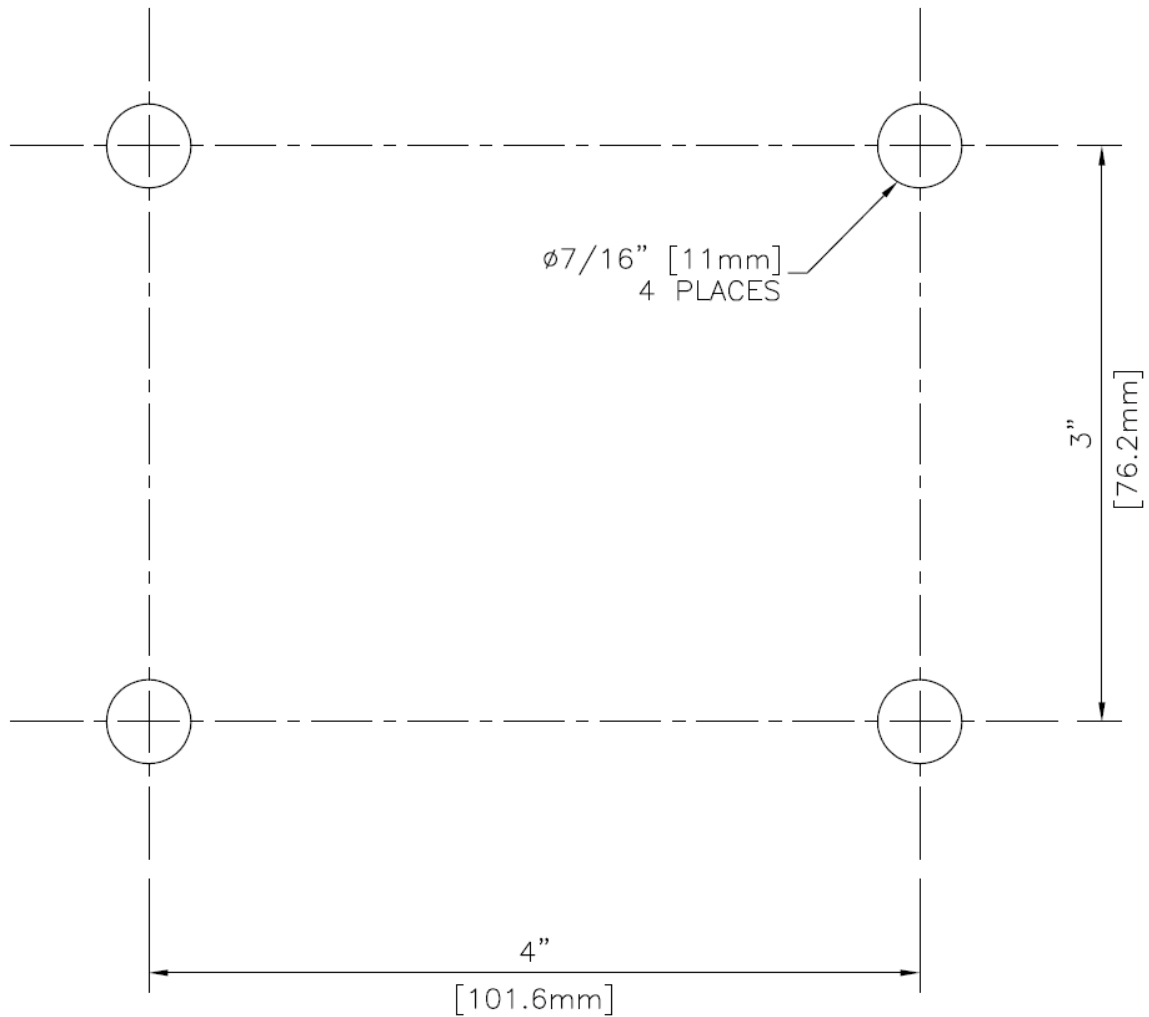
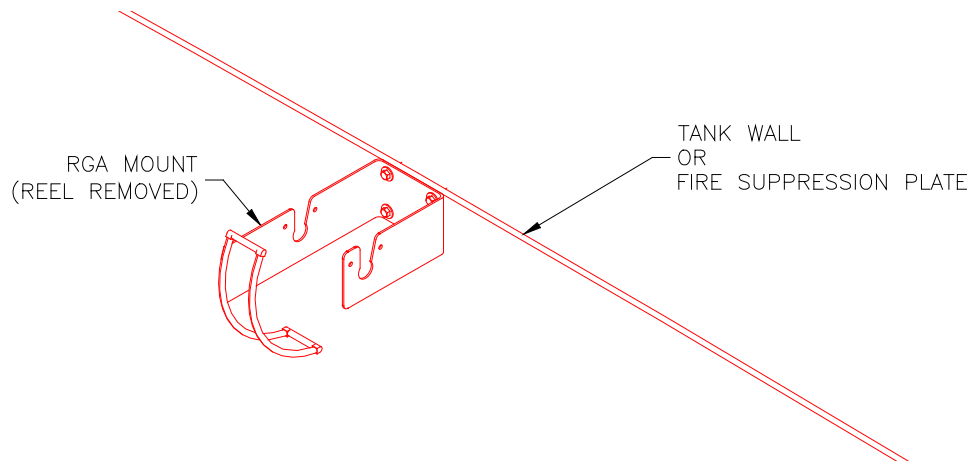

Figure 3: RGA Mount – Hole Dimensions
Figure 4: Mounting the RGA Mount to the Tank Wall
Mounting the RGA directly to the Tank Wall – Remove the Reel from the mount by removing the ¼” bolts attaching the Hold Down Bars. Four (4) 7/16” [11mm] diameter holes need to be made in the field in the tank wall using the RGA Mount as a template. See Figure 3, RGA Mount - Hole Dimensions. Scrape paint and rust from around the drilled holes to bare metal. Apply Lectra Shield to both sides of the hole to prevent rusting. Using the supplied hardware, secure the RGA Mount to the tank wall and apply Lectra Shield to the hardware after assembly, See Figure 4, Mounting the RGA Mount to the Tank Wall.